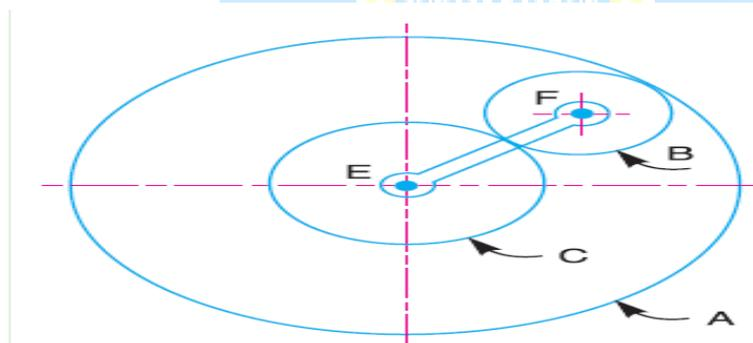

Fig. 13.10
7. An epicyclic gear consists of three gears A, B and C as shown in Fig. 13.10. The gear A has 72 internal teeth and gear C has 32 external teeth. The gear B meshes with both A and C and is carried on an arm EF which rotates about the center of A at 18 r.p.m.. If the gear A is fixed, determine the speed of gears B and C